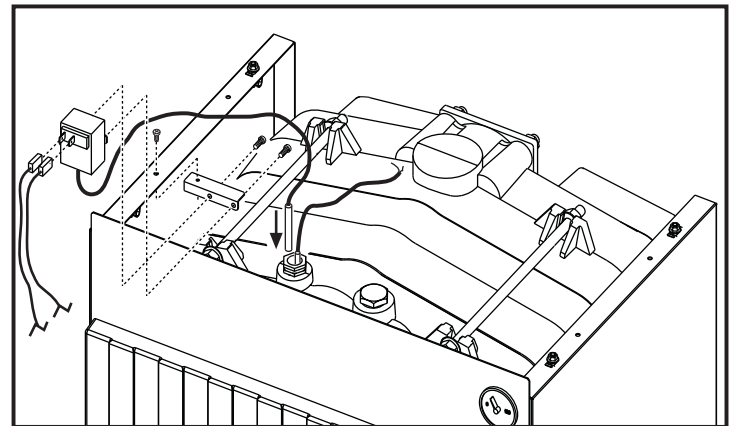

fig. 12
- Fix the bracket and the thermostat as indicated in the fig. 12.